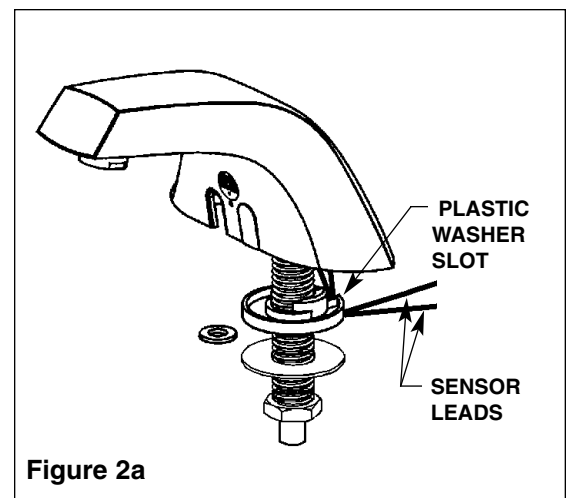

Figure 2a
8. Install the white plastic washer onto the shank from beneath the countertop, followed by the 7/8" I.D. washer and nut. The sensor lead wires should align with the slot in the washer (see Figure 2a). Secure the faucet to the countertop by tightening the nut.